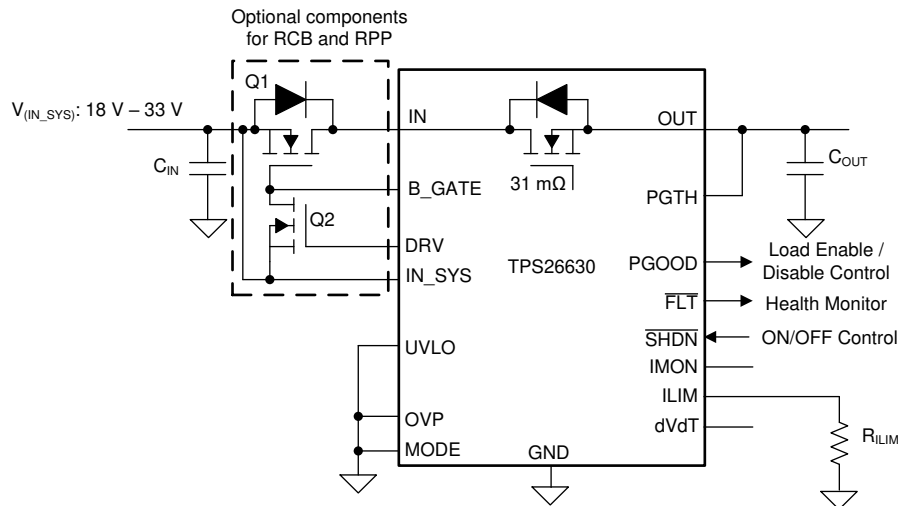

图 9-11. TPS26630 Configured for a Simple 24-V Supply Path Protection
With the TPS2663x devices, a simple 24-V power supply path protection can be realized using a minimum of five external components as shown in the schematic diagram in 图 9-11. The external components required are: an N – Channel Power FET Q₁, an N – Channel signal FET Q₂, and an R_(ILIM) resistor to program the current limit, C_(IN) and C_(OUT) capacitors.